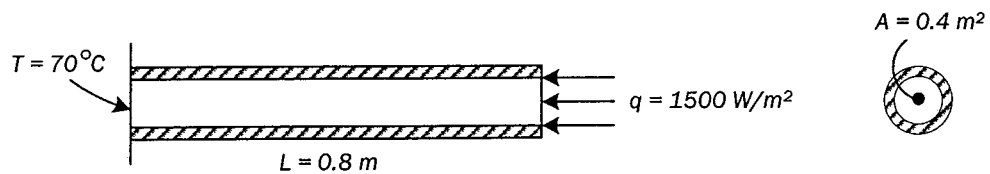

Figure Q3[a]
- Q3. [a] The fin shown in Figure Q3[a] is insulated on the perimeter. The left end has a constant temperature of  $70^\circ\text{C}$ . A positive heat flux of  $q = 1500\text{ W/m}^2$  acts on the right end. Let thermal conductivity,  $k_x = 20\text{ W/(m}\cdot^\circ\text{C)}$  and cross-sectional area  $A = 0.4\text{ m}^2$ . Determine the temperatures at  $L/2$  and  $L$  from the left end.